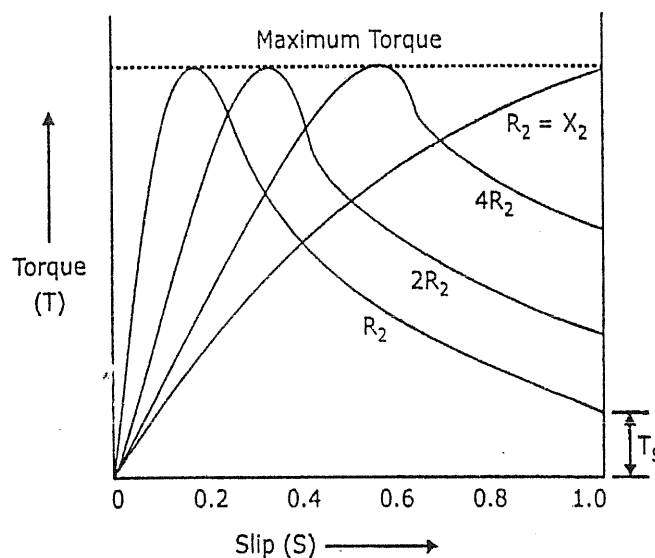

FIG. 4.12 : TORQUE - SLIP CHARACTERISTIC
- The torque - slip characteristic of the induction motor is shown in Fig. 4.12. In general, the torque of the induction motor is given by